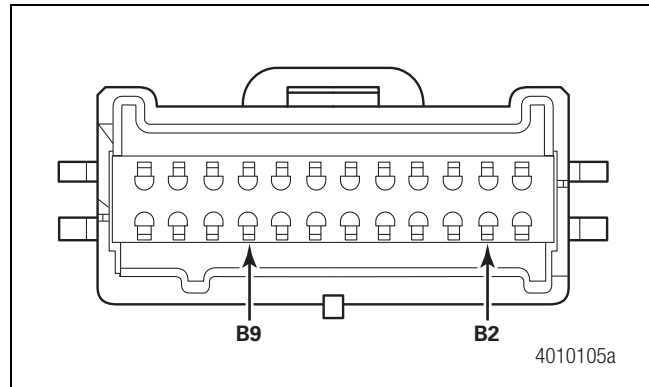

Figure 2.21
2. Measure from terminal B2 to the ground terminal B9 on the vehicle harness side for short to 12 volts. Figure 2.21.